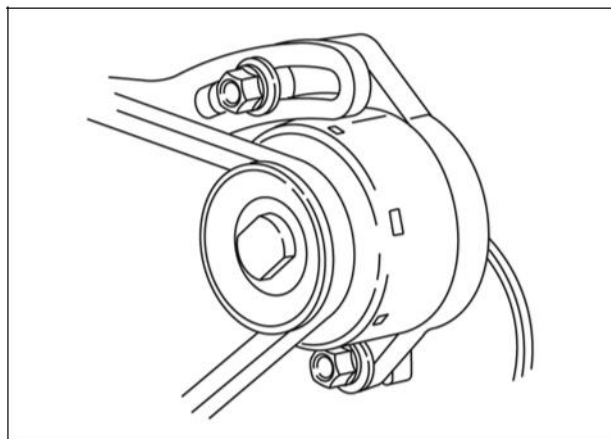

Figure 9
1. The belt driven permanent magnet alternator produces AC voltage (Figure 9). AC output will vary with engine RPM, from approximately 7 volts AC at 1000 RPM to 32 volts AC at 3000 RPM.